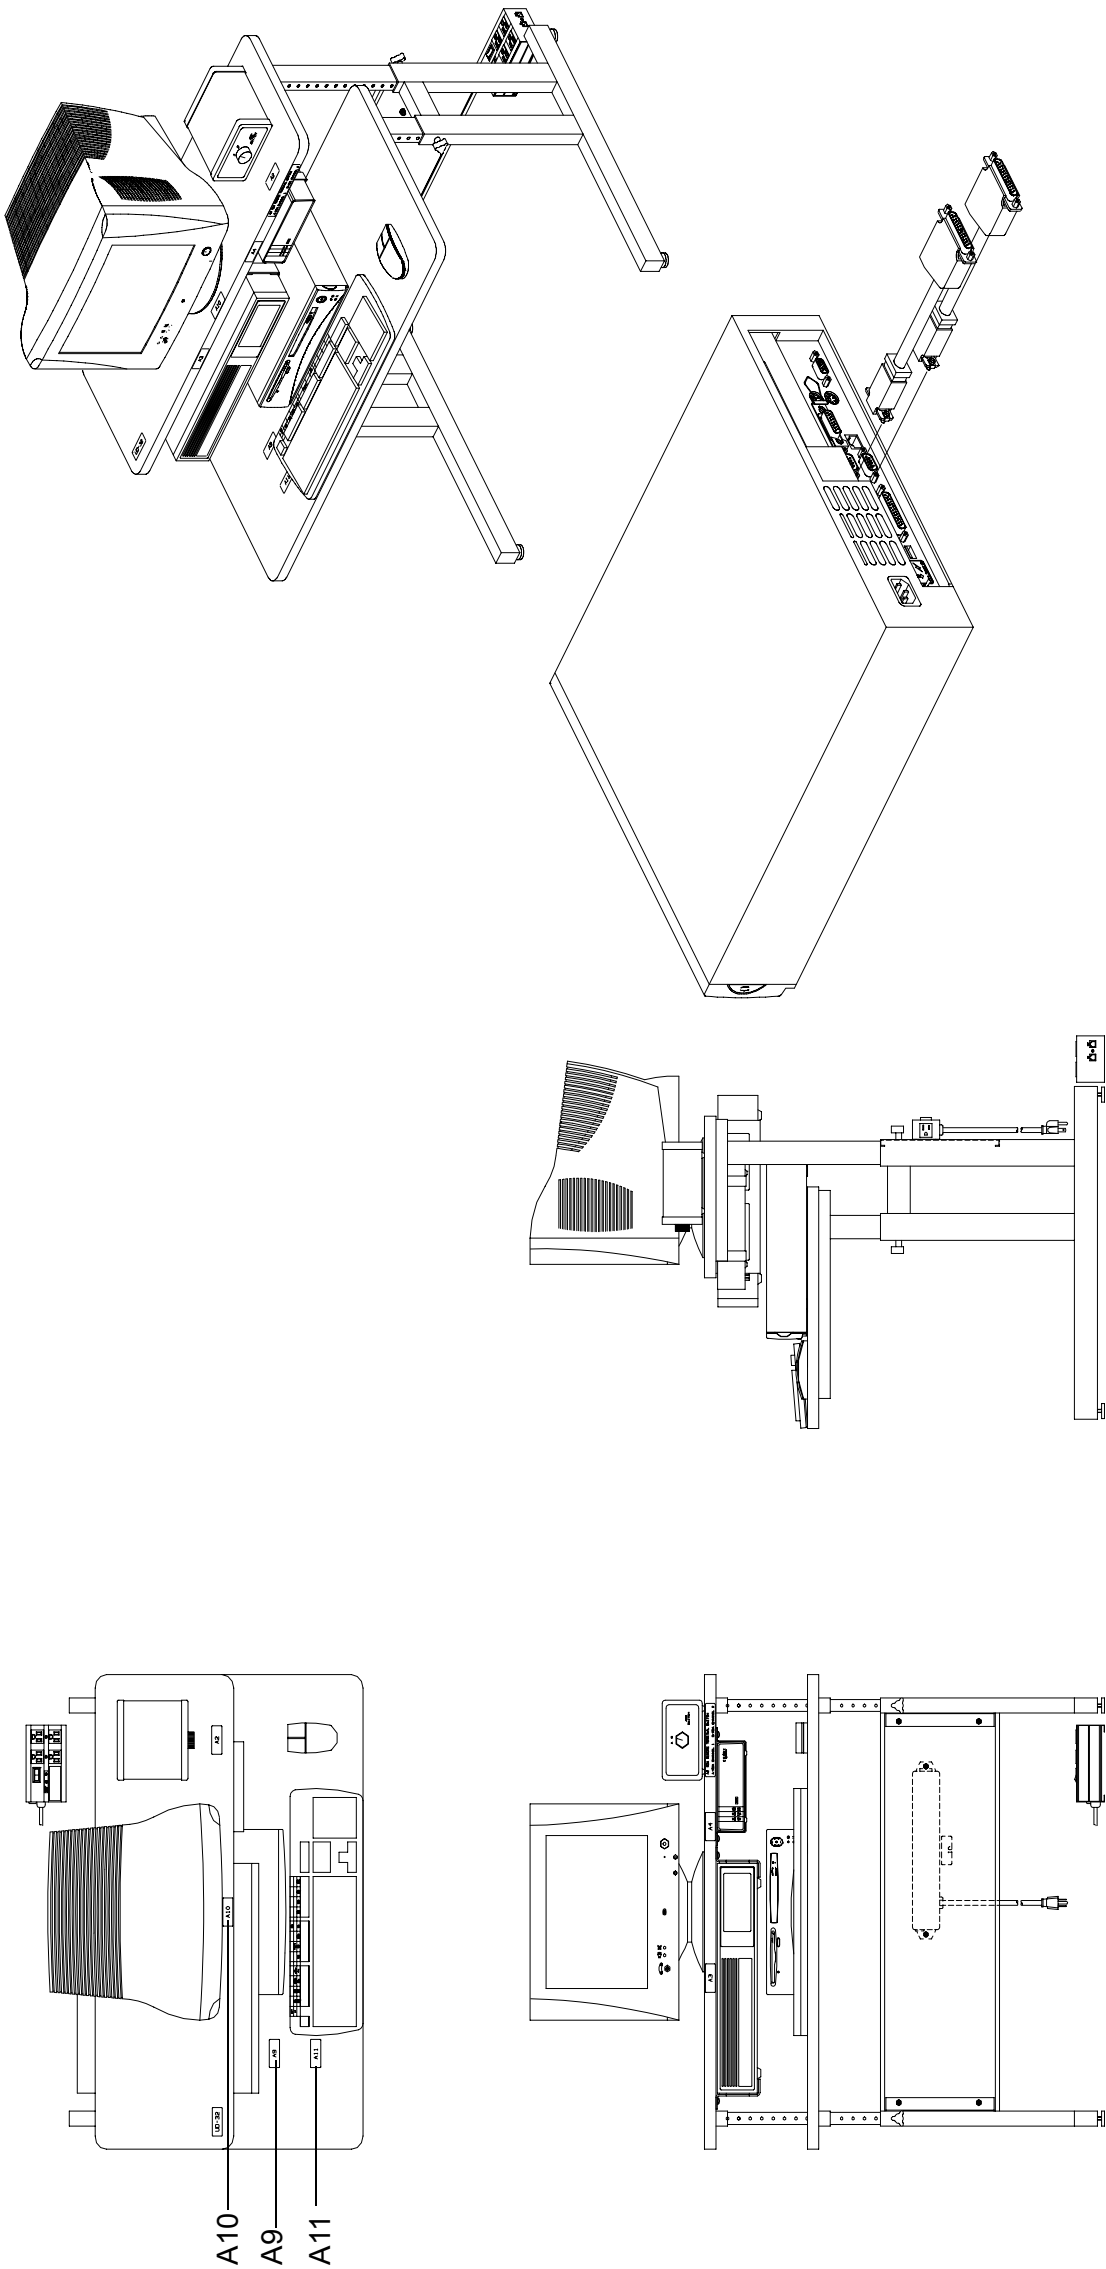

Figure 3 NWS Redundant RDA/RPG Remote Access Terminal Location
- a. Position the Central Processing Unit (CPU) on the RDA Remote Terminal stand desk area. (See figure 3).
- ac. Place the new RDA Remote Terminal designation plates A9, A10, and A11, as shown in figure 3.